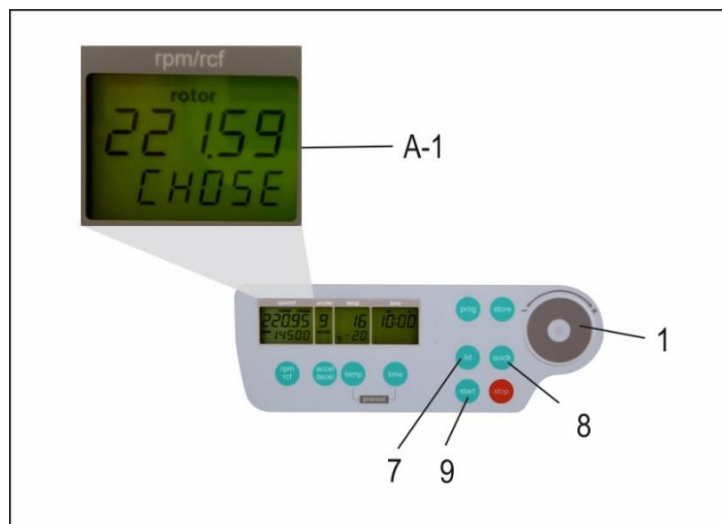

Figure 5
With the control field (1), choose the used rotor now, (see Figure 5). To select the data, in the unit, please press the, "start" (9) key. Inside the display (A-1), the confirmation appears as. "store".